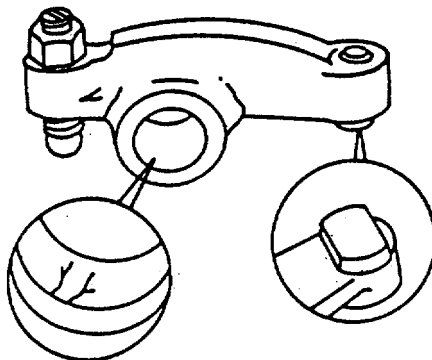

FIGURE 3-39. Valve Stem Check.
- a. Inspect for cracks and wear in the bore and the surface which makes contact with the valve stem (FIGURE 3-39).